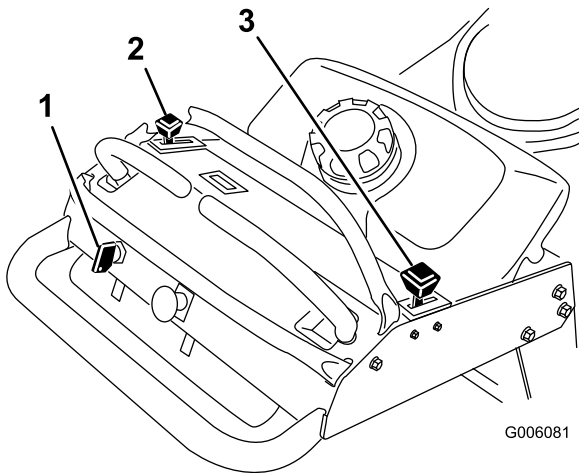

Figure 6
4. Move the throttle control to fast and move the choke lever to the on position before starting a cold engine (Figure 6).
- Move the throttle lever to slow (Figure 6).